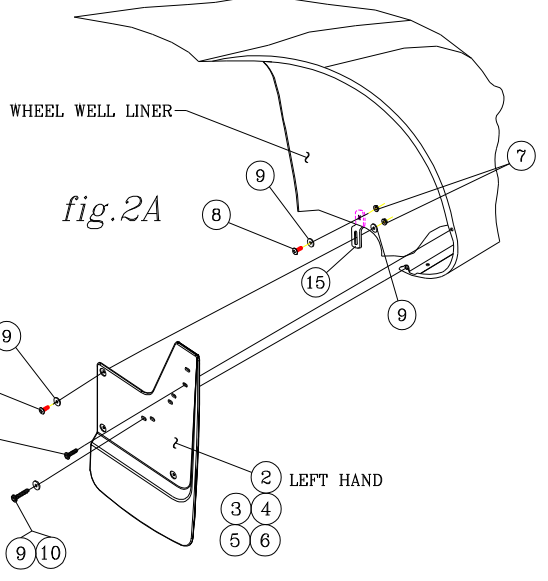

fig.2A
- 4.4. ON THE **DRIVERS** SIDE INSTALL ZEE CLIP BRACKET ON BACKSIDE OF SPLASH GUARD USING A #10-24 X 1.00" TRUSS HEAD SCREW, #10 FLAT WASHERS AND #10-24 SERRATED FLANGE NUT . USING THE INBOARD UPPER HOLE, DRILL A ¼" DIA. HOLE THRU THE WHEEL WELL LINER. INSTALL A #10-24 X 1.00" TRUSS HEAD SCREW, #10 FLAT WASHERS AND #10-24 SERRATED FLANGE NUT. SEE **FIG 2A**